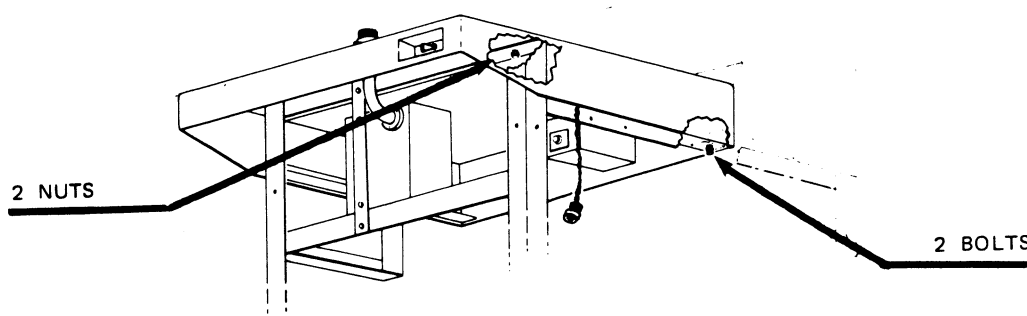

Figure 6-7. Removing Stainless Steel Counter Top
13. Remove stainless steel counter-top. (See figure 6-7)
- b. Using 7/16-inch socket wrench, remove the two nuts in the front top frame member and the two bolts at the rear of the side frame members (Figure 6-7)